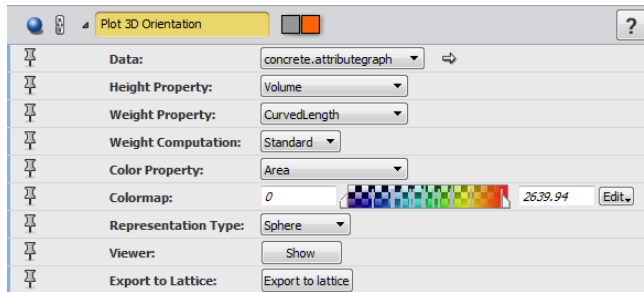

Figure 12.38: Parameter Settings of the *Plot 3D Orientation* Module
3. Set the parameters as shown in Figure 12.38.